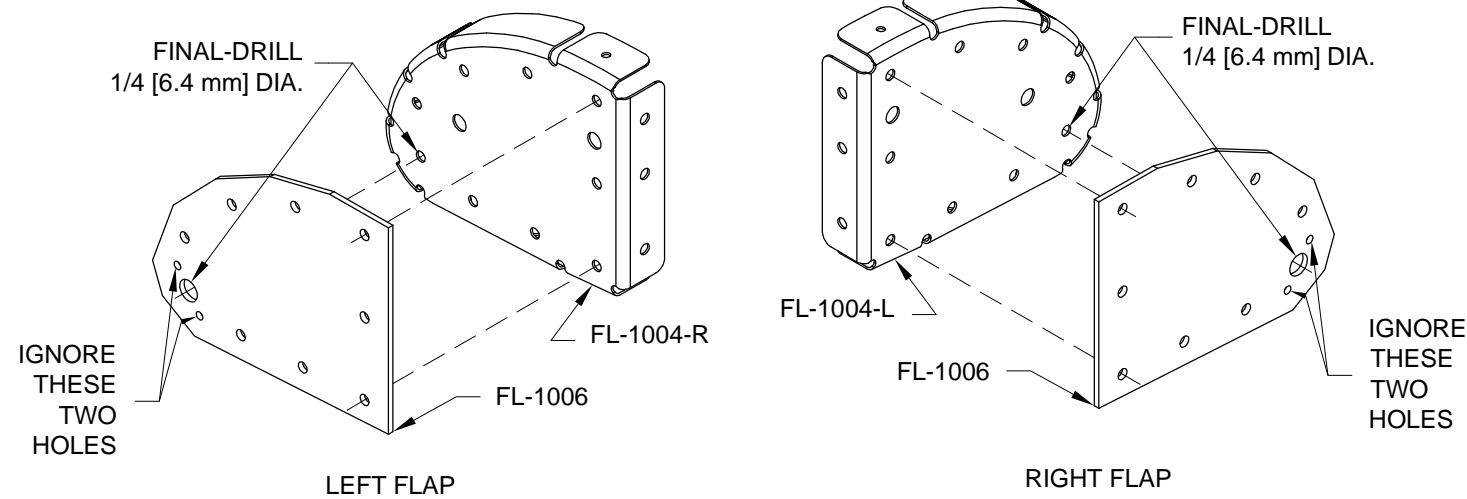

FIGURE 1: FINAL-DRILL
Step 1: Assemble the Inboard Rod End Rib Subassembly by clecoing the FL-1006 Doublers to the FL-1004-L & -R Nose Ribs. See Figure 1.
Step 2: Final-Drill the .250 [6.4 mm] hole but ignore the two .094 [2.4 mm] holes shown in Figure 1.